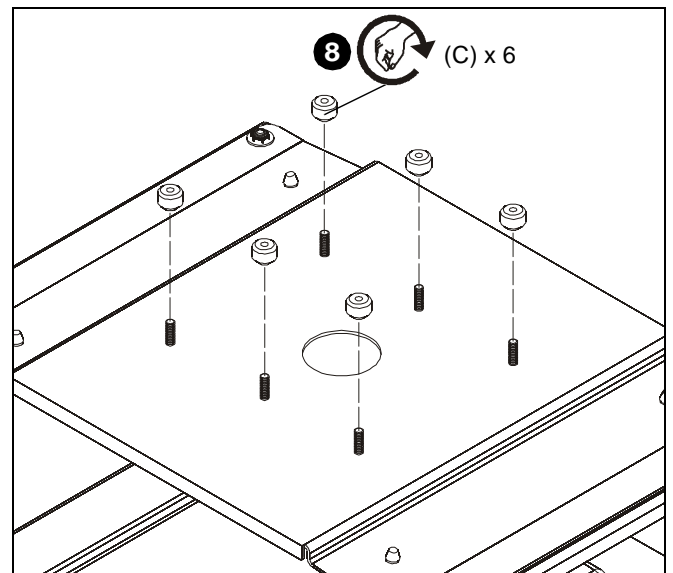

Figure 3
8. Install six thumbnuts (C) onto hanging bracket (A). (See Figure 3)